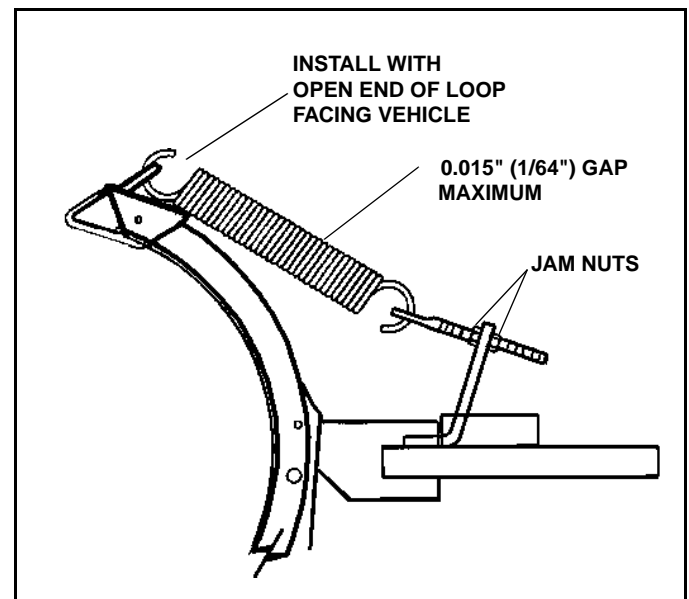

Figure 2-3
5. Attach trip springs found in blade parts box to both trip spring mounting brackets on top of blade assembly. Insure that Spring is installed as illustrated with open end of top loop facing vehicle. (See Figure 2-3) Insert other
end of spring into Eyebolts. Install nuts on Eyebolts and tighten until trip spring coils allow a 0.010" feeler gauge to pass between two or more coils. (See Figure 2-3)